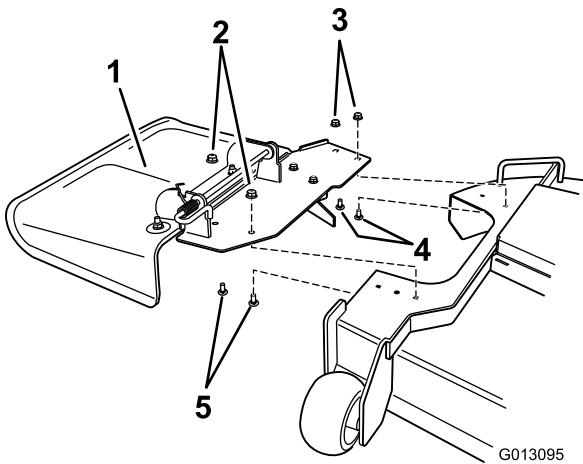

Figure 9
1. Remove fasteners that secure the deflector assembly to the mower deck (Figure 9).